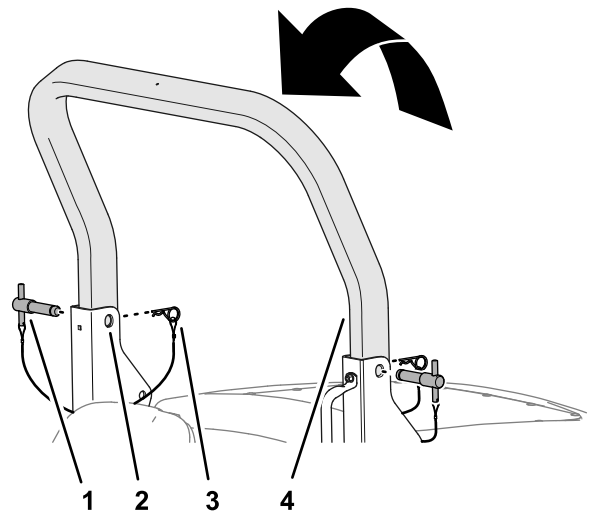

Figure 24
3. Raise the upper roll bar until the holes in the roll bar align with the pivot brackets (Figure 24).
4. Insert the roll-bar pins through the upper holes of the pivot brackets and the upper roll bar (Figure 24).
5. Secure roll-bar pins to the pivot brackets with the hairpins (Figure 24).